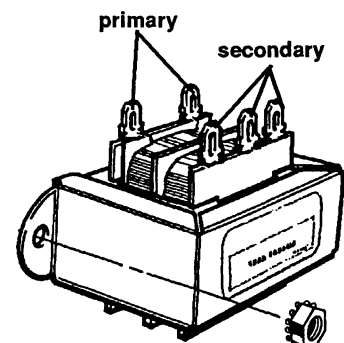

Figure 1-2a - Chopper Transformer
6. Remove wires from chopper transformer primary and secondary, then remove transformer and discard. Save transformer mounting hardware. See Fig. 1-2a.
8. Take the AC adapter cable assembly (023865) from kit and mount one side of terminal board end to where the transformer was located using hardware removed in step 6. Attach the two wires removed from the chopper transformer primary and connect to terminal board (match red wire to red wire; red w/black wire to red w/black wire). See Figs. 1-2a & 1-1.